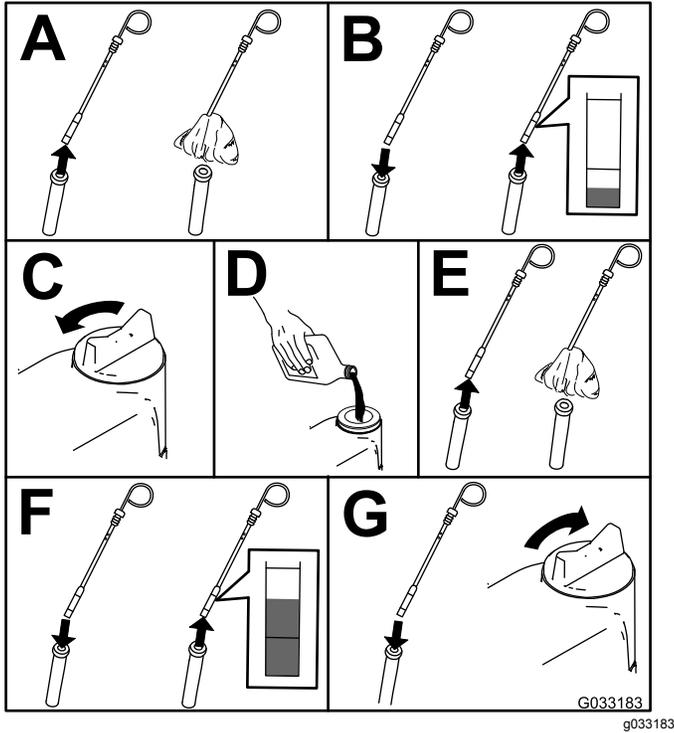

Figure 72
2. Check the engine-oil level (Figure 72).